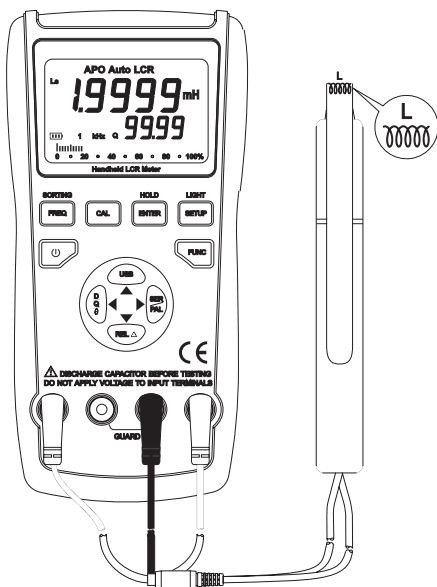

Figure 10
- 3) Insert inductance into testing port or connect corresponding fittings to measured inductance (shown in Figure 10).